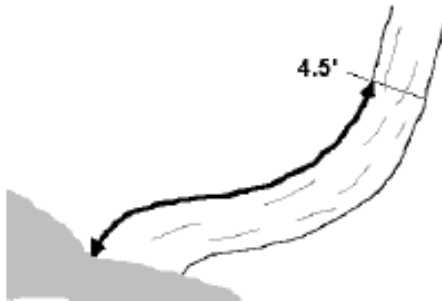

Figure 8.24: Tree with curved bole (pistol butt tree)
12. Tree with curved bole (pistol butt tree): Measure along the bole on the uphill side (upper surface) of the tree (Figure 8.24).